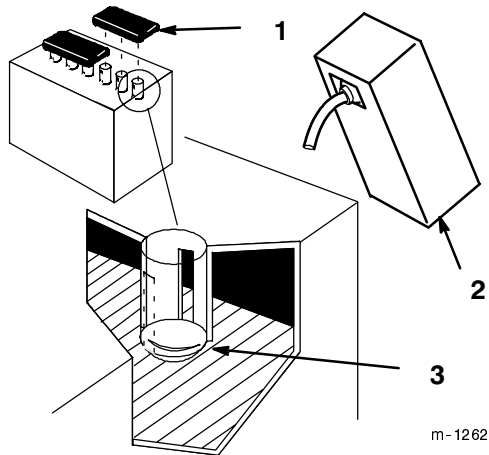

Figure 5
- Remove filler caps from the battery. Slowly pour electrolyte into each cell until the electrolyte level is up to the lower part of the tube (Fig. 5).
- Slowly pour electrolyte into each cell until the level is once again up to the "UPPER" line on the battery case (Fig. 5) and install covers.